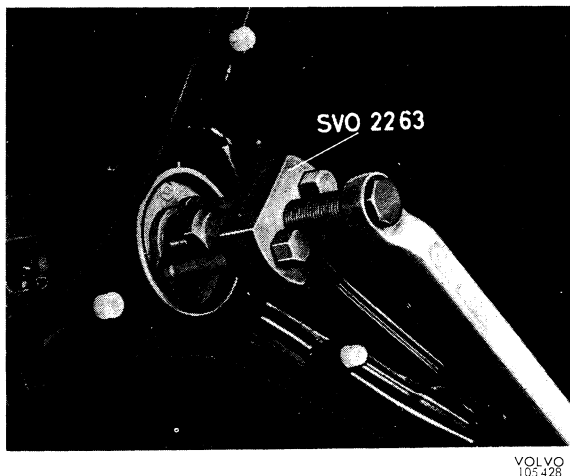

Fig. 6-33. Removing steering wheel
4. Pull the steering wheel off with puller SVO 2263, see Fig. 6-33.